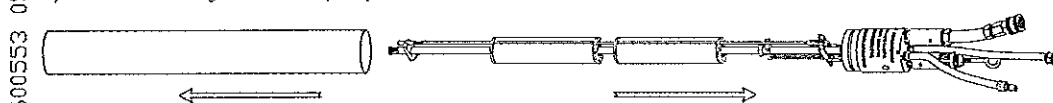

Figure 16 - Removing AP-2 Pump Casing
- STEP 1 -** Insert and hold a spanner wrench on the circumference of the lower head. Rotate a spanner wrench counterclockwise on the lower head assembly. Hold the casing with a handle or a strap wrench. (See Figure 16)
- STEP 1 -** The bottom intake check valve assembly should be removed from the casing. (See pages 46 and 47, and Figure 16 on page 48)